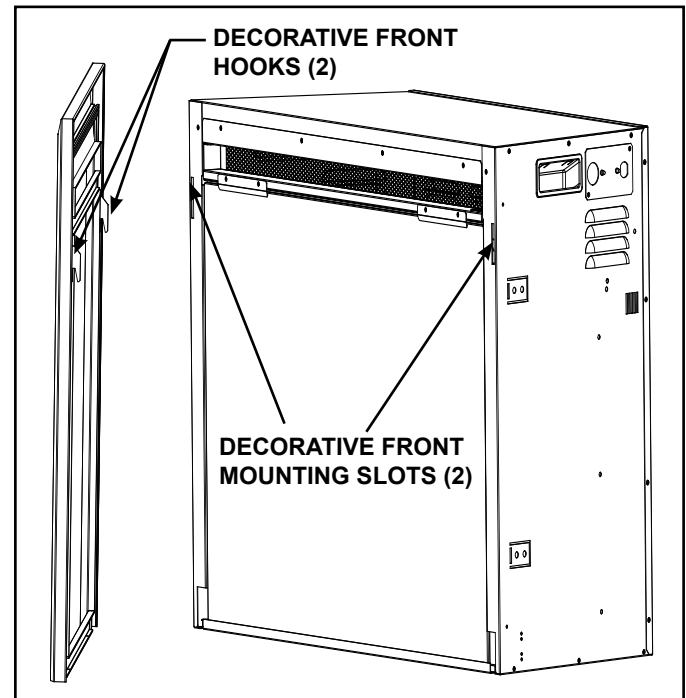

Figure 4.14 Decorative Front Installation
6. If using an optional surround, install it onto the fireplace. See Section 4.C. If not using the optional surround, place the decorative front on the fireplace to assist with determining the proper mounting depth into the framing. See front installation Figure 4.14 .
1. Install the provided appliance front by aligning the two (2) top hooks on the back of the front with the slots on the decoative front of the appliance. See Figure 4.14.